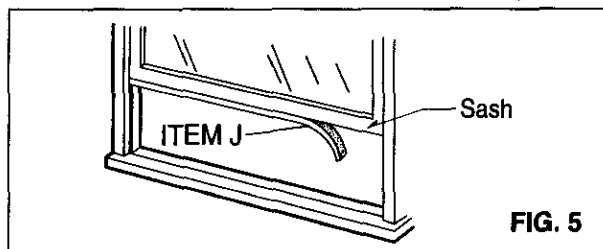

FIG. 5
- 3** Cut the FOAM STRIP (ITEM J) to fit the underside of the window sash. Peel off the backing and attach the FOAM STRIP as shown in Fig. 5.